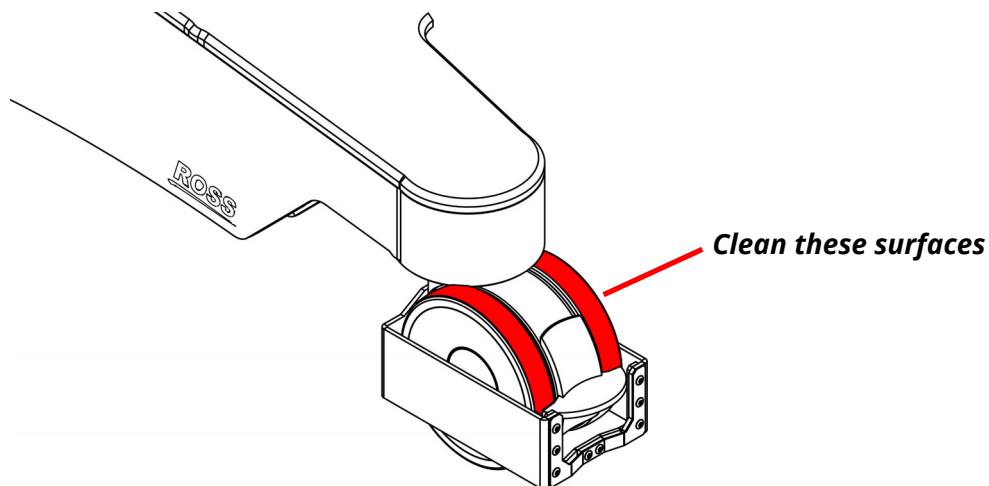

Figure 2 Clean the exposed portion of the wheel's surface
1. Put on protective gloves, and then clean portion of the wheel that is exposed above the cable guard using a cloth, warm water, and mild detergent (see **Figure 2**).